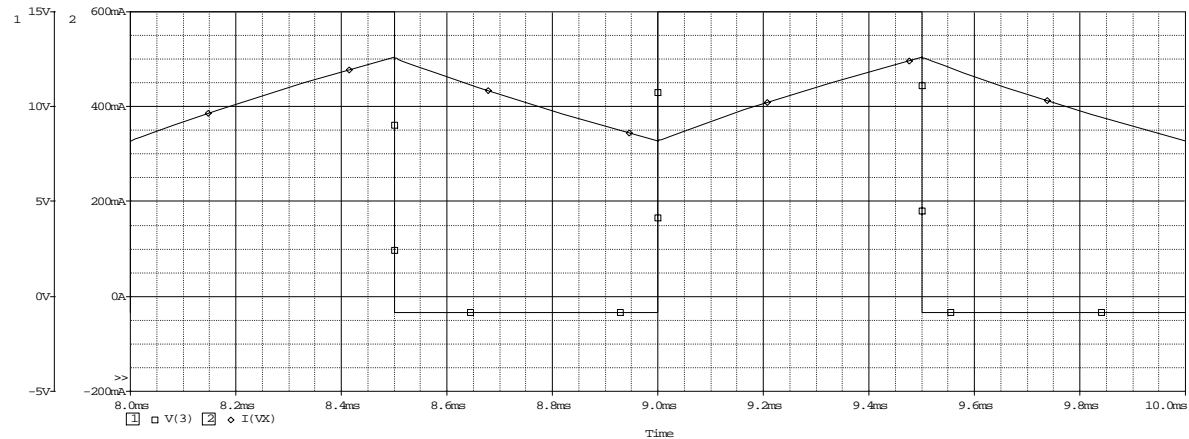

Figure 9-2 Load current and the load voltage of a DC chopper
2. A DC chopper can be used to obtain a variable output voltage which can control the speed of a DC motor or the variable DC link voltage to an inverter. The PSpice plots of the load current and the load voltage are shown in Fig. 9-2.